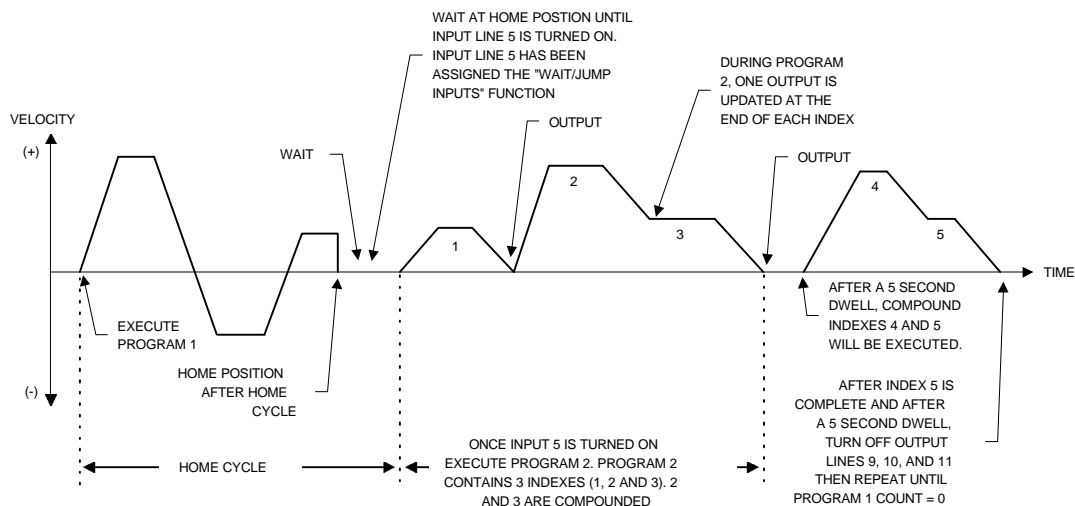

Figure 82 Motion Program Example
You may use any index or program which you have previously created to build your program. The example motion program shown in Figure 82, "Motion Program Example," on page 108 could be accomplished with one program; however, two programs have been used to show the use of the Call Program (P) function. In this example, program numbers 1 and 2 are used and index numbers 1, 2, 3, 4, and 5 are used.